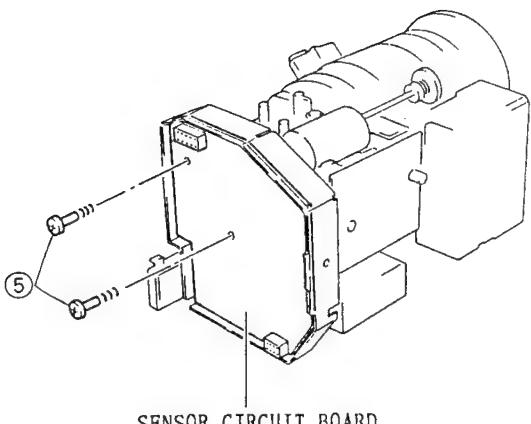

Fig. 2-28
5. Remove two (2) screws holding the sensor circuit board. (See Fig. 2-28)